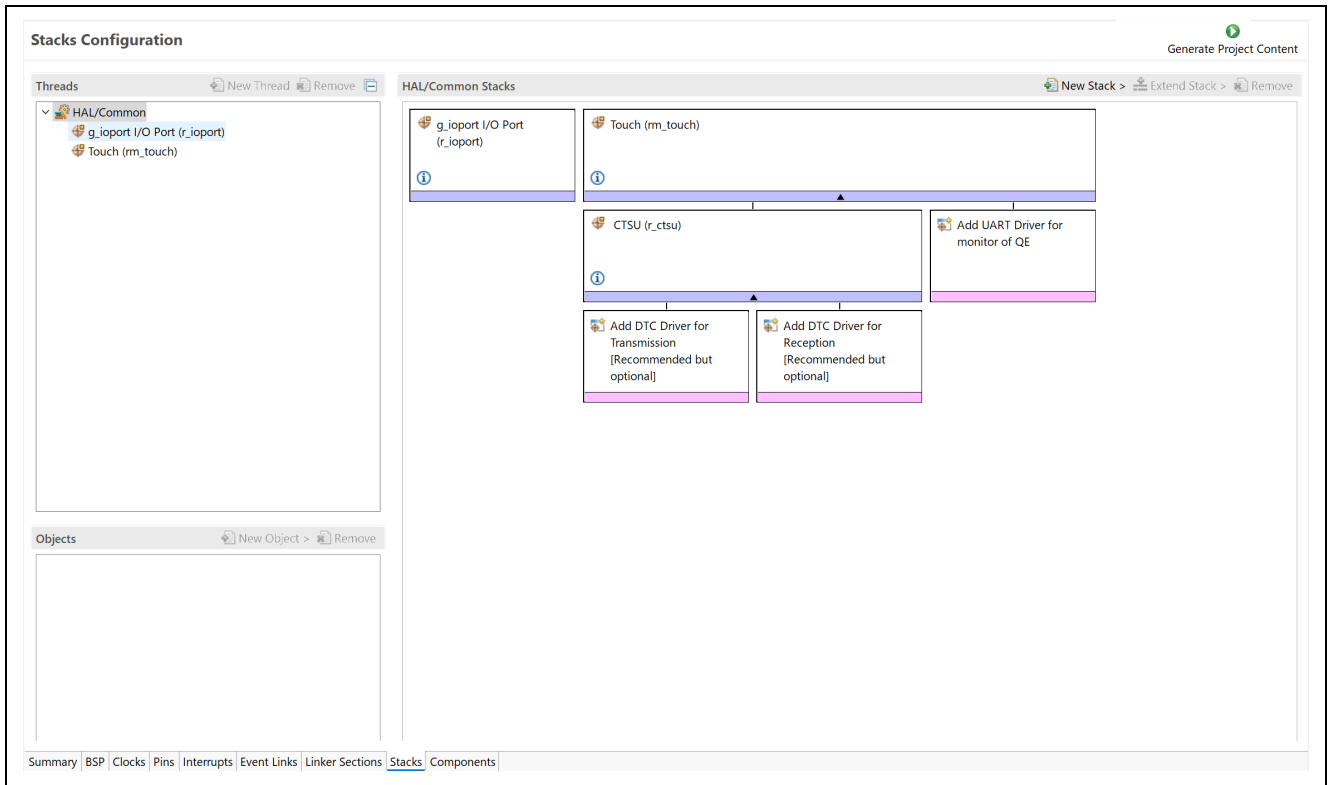

Figure 6-1 Add the Touch Middleware
2. As shown in Figure 6-1, add the Touch middleware on the [Stacks] tab of the RA Smart Configurator.